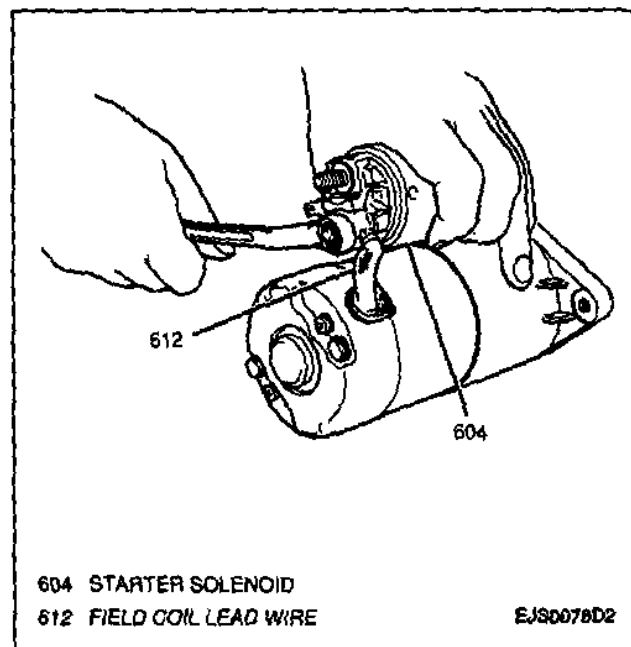

Figure 7—Removing Field Coil Lead Wire From Starter Solenoid
1. Retaining nut and field coil lead wire from starter solenoid (Figure 7).